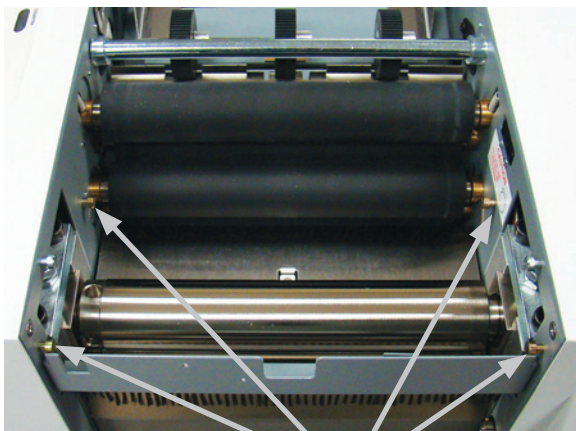

Figure 4a
1. Adjust fold plates to desired fold for length of paper (see fold plate adjustment on page 4). To do this, loosen the two thumbscrews (Figure 4a & b) on each fold plate. Align center bar (Figure 4a & b) so the marks on each side match up. For “V” folds, remove the lower fold plate, turn around 180° and reinstall.
4. To reinstall the upper fold plate, slide the plate (with thumbscrews facing up and the throat toward the inside of the machine) until the grooves on the underside line up with the four pins on the machine (Figure 4a & 4b).